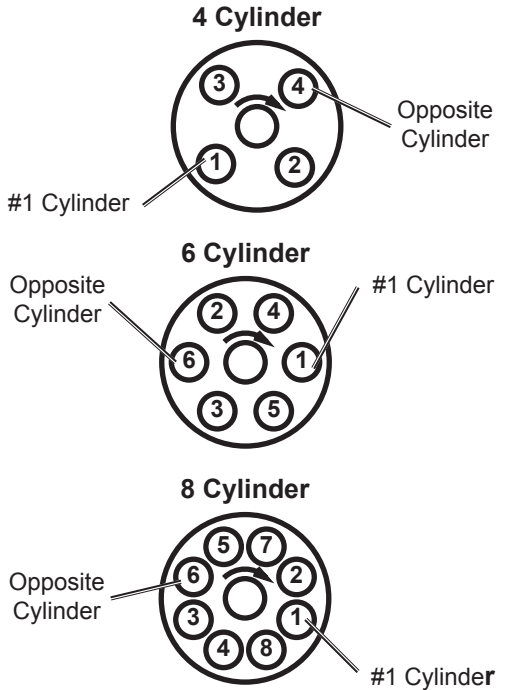

Figure 4
2. Connect the Timing Light to the spark plug wire directly opposite (180°) from the number 1 cylinder on the distributor cap. See Figure 4.